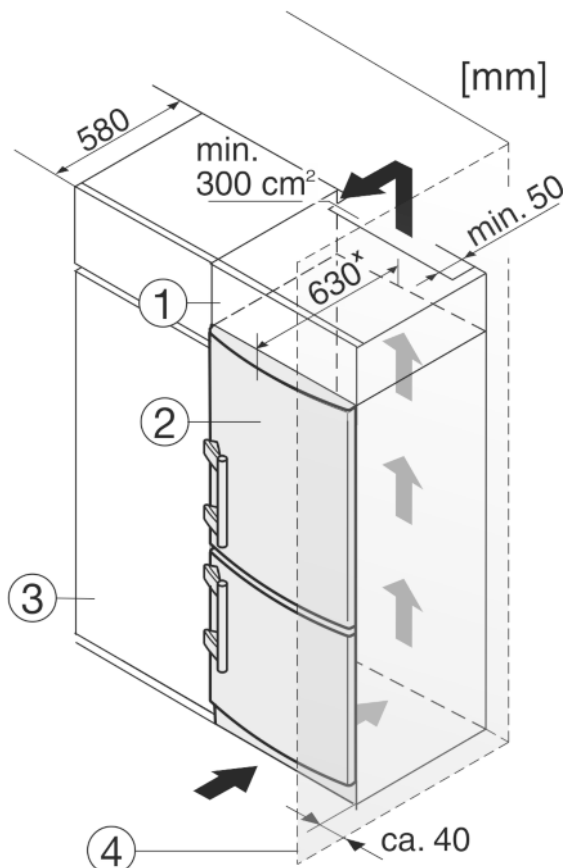

Fig. 9
- (1) Stack cabinet (3) Kitchen cabinet
(2) Appliance (4) Wall
The appliance can be inserted into a row of kitchen units. To match the appliance Fig. 9 (2) to the height of the row of units, a suitable stack cabinet Fig. 9 (1) can be fitted above the appliance.
When installing with kitchen units (max. depth 580 mm), the appliance can be positioned directly next to the kitchen cabinet Fig. 9 (3). The appliance will project by 34 mm* at the sides and 50 mm* in the centre of the appliance in relation to the kitchen cabinet front.
If the appliance is installed with the hinges next to a wall Fig. 9 (4), the distance between appliance and wall has to be at least 40 mm. This corresponds to the projection of the handle when the door is open.